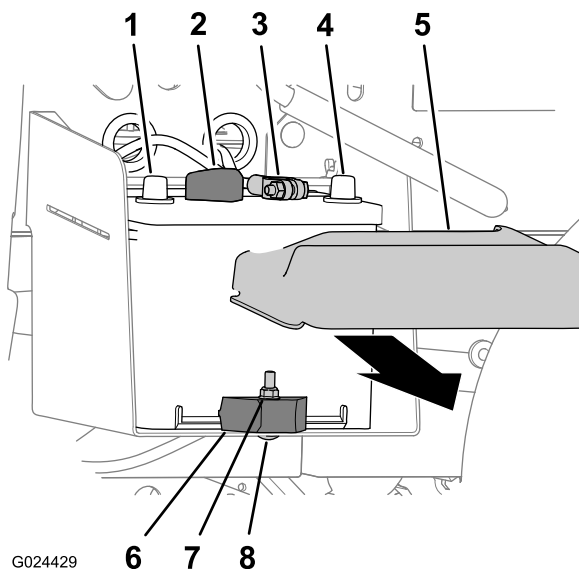

Figure 48
1. Squeeze the sides of the battery cover and remove the cover from the top of the battery (Figure 48).
2. Disconnect the negative (black) battery cable from the terminal of the battery (Figure 48).
3. Disconnect the positive (red) battery cable from the terminal of the battery (Figure 48).
2. Remove the locknut, carriage bolt, and battery clamp that secure the battery to the battery tray (Figure 48).
3. Remove the battery from the battery tray (Figure 48).
1. Align the battery to the battery tray of the machine (Figure 48).
Note: Ensure that the positive and negative posts of the battery are aligned as shown in Figure 48.
2. Secure the battery to the battery tray with the battery clamp, carriage bolt, and locknut (Figure 48).
1. Connect the positive (red) battery cable to the terminal of the battery (Figure 48).
2. Connect the negative (black) battery cable to the terminal of the battery (Figure 48).
3. Install the battery cover onto the top of the battery (Figure 48).